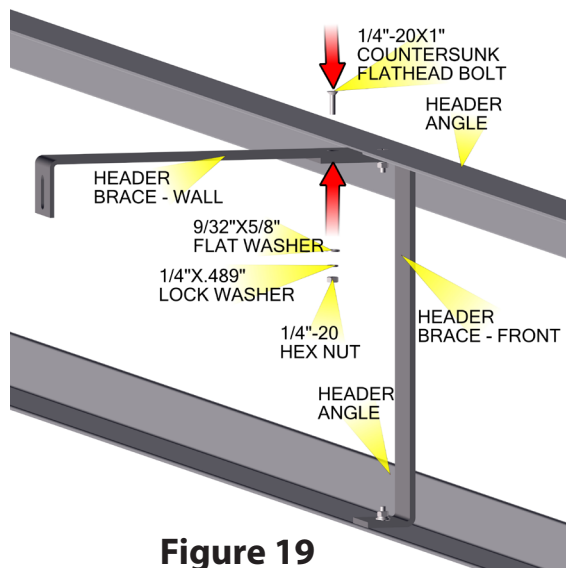
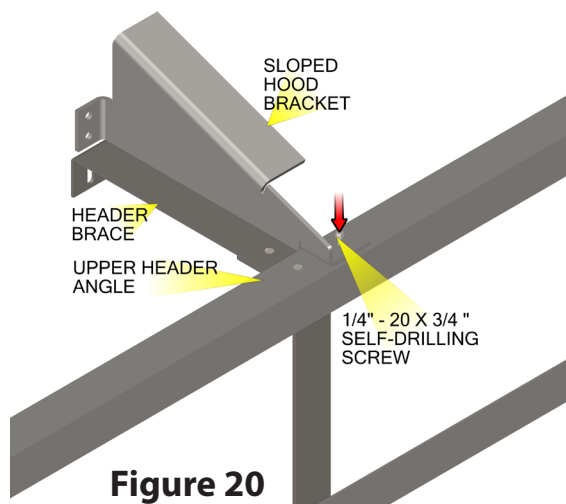

Figure 19
Figure 20
- Assemble the components of the header assembly, as shown in **Figure 19** through **Figure 20**.